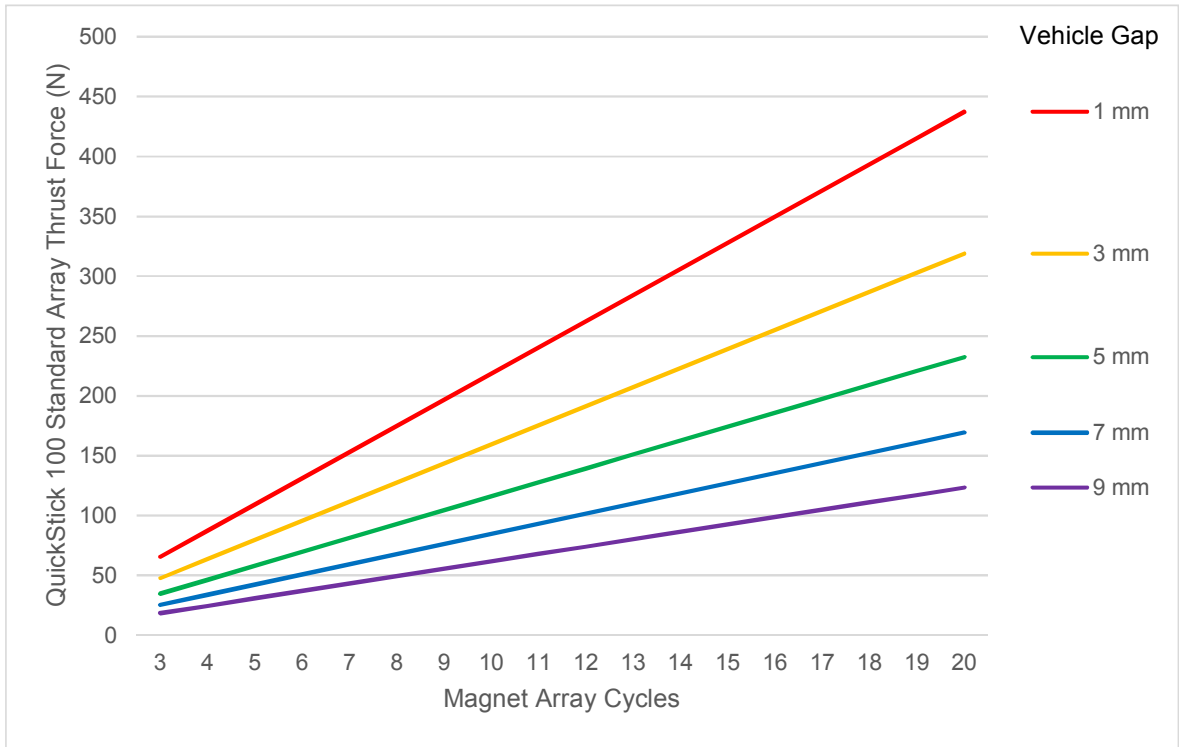

Figure A-1: Thrust Force vs. Magnet Array Cycles, Standard Magnet Array
The data that is provided in Table A-1 shows the available thrust for QS 100 motors at 4 Amps stator current with a standard (potted or covered) magnet array. This data is graphed in Figure A-1, which shows how the available thrust increases with an increase in the number of magnet array cycles. The chart also shows that as the Vehicle Gap increases, the available thrust decreases.
- The thrust that is produced varies roughly in proportion to the length of magnet array engaged by stators. For example, an 8 cycle long magnet array yields twice the thrust of a 4 cycle array, assuming that both arrays are fully engaged by stators, with the same drive current and gap values (see Figure A-1).